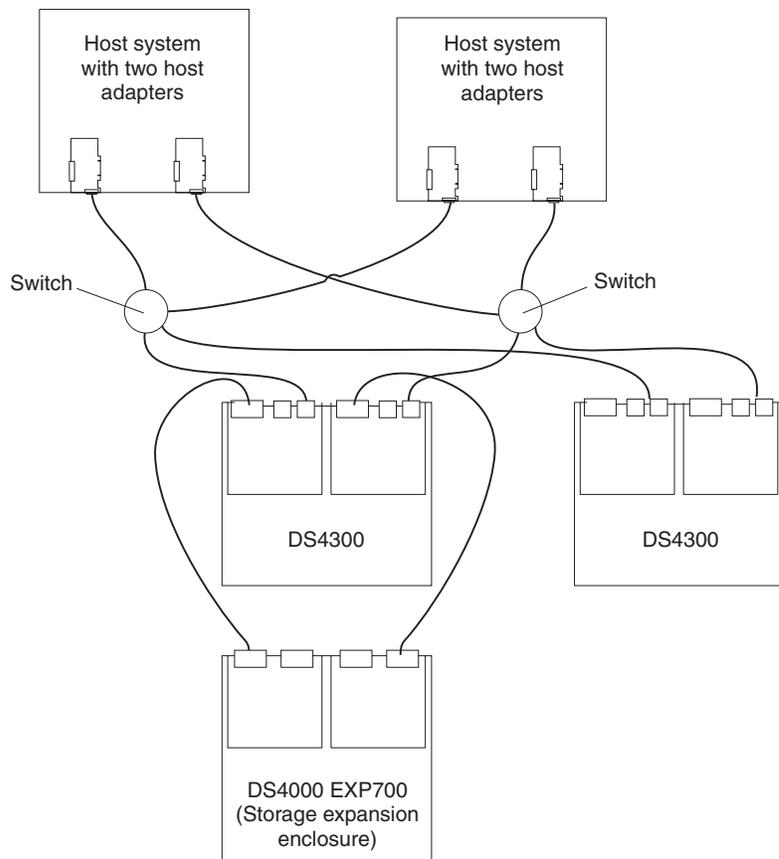

Figure 59. Example of a dual-SAN fabric zone configuration (Model 60U/60X)
- Dual SAN fabric zone configuration, with an additional DS4300 storage subsystem and an EXP700 attached (Figure 59 on page 77)